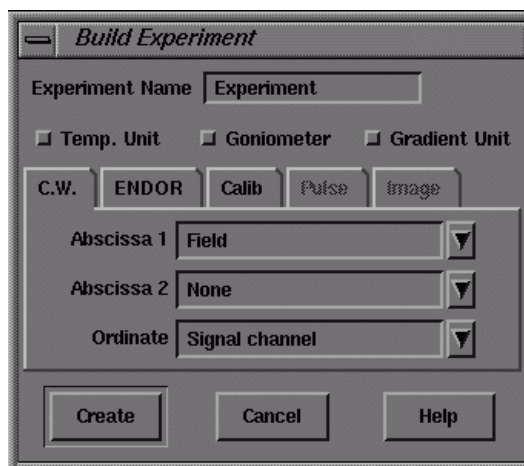

Figure 3-12 The New Experiment configuration.
2. **Create a New Experiment.** In order to acquire a spectrum, you need to define an experiment. To create a new experiment, click the **New Experiment** button in the monitoring panel. (See Figure 3-11.) In the **New Experiment** dialog box, enter a name for the new experiment. By default the name is **Experiment**. Click the **C.W.** tab. Choose **Field** for **Abscissa 1** and **None** for **Abscissa 2**. If the **Ordinate** is not **Signal Channel** select **Signal Channel** in the **Ordinate** drop-down list. If the buttons for **Temp Unit** (the variable temperature unit), **Goniometer**, and **Gradient Unit** are activated (green) click on it to deactivate it. (See Figure 3-12.) Click **Create** and then the dialog box will close. The spectrometer will now be configured with these settings.